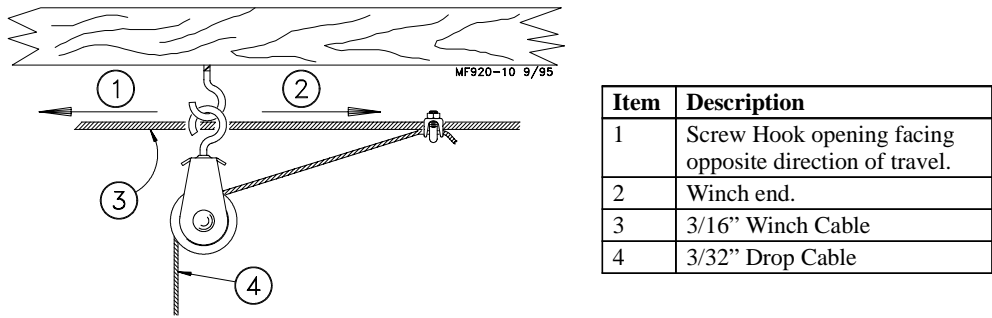

Figure 24. Screw Hook Installation
Refer to Figures 24 or 25 through 29 for specific installation instructions for the screw hooks and ceiling hooks.
- 2. The openings of the screw hooks must be pointed away from the direction of travel when the Power Winch raises the feeder line. See Figure 24.
2. Thread the end of the 3/32" or 1/8" cable through the pulley toward the winch. Clamp this end to the 3/16" winch cable about 6" (150 mm) from the last pulley, using a 3/16" cable clamp. See applicable figure; Figure 24 or 29.